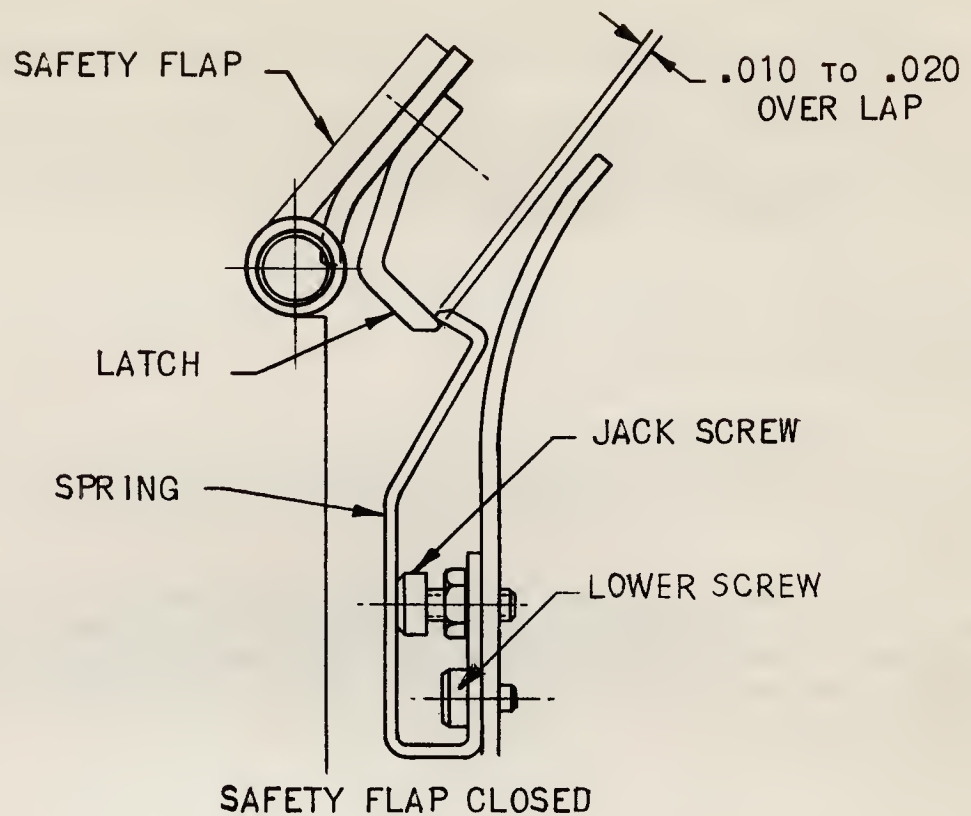

FIG.3A
5. The assembler entrance flap latch spring should overlap the latch in normal closed position by .010" to .020". Adjust by means of the jack screw and the lower screw. (Fig. 3A.)